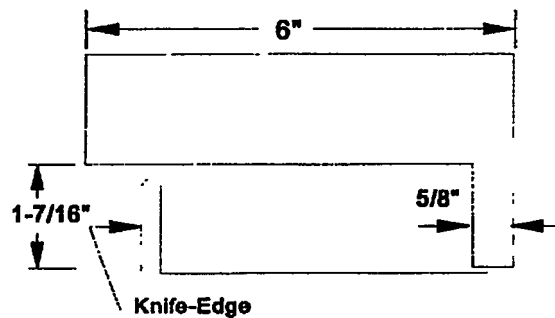

Figure 600-2.19. Gauge for Measuring Knife-edge Height
- c. Inspect the entire knife-edge for proper height. A block of aluminum cut to the specifications shown in figure 600-2.19 is an effective gauge. If the knife-edge is more than 1/8 inch too high or too short, it must be repaired in accordance with step d.